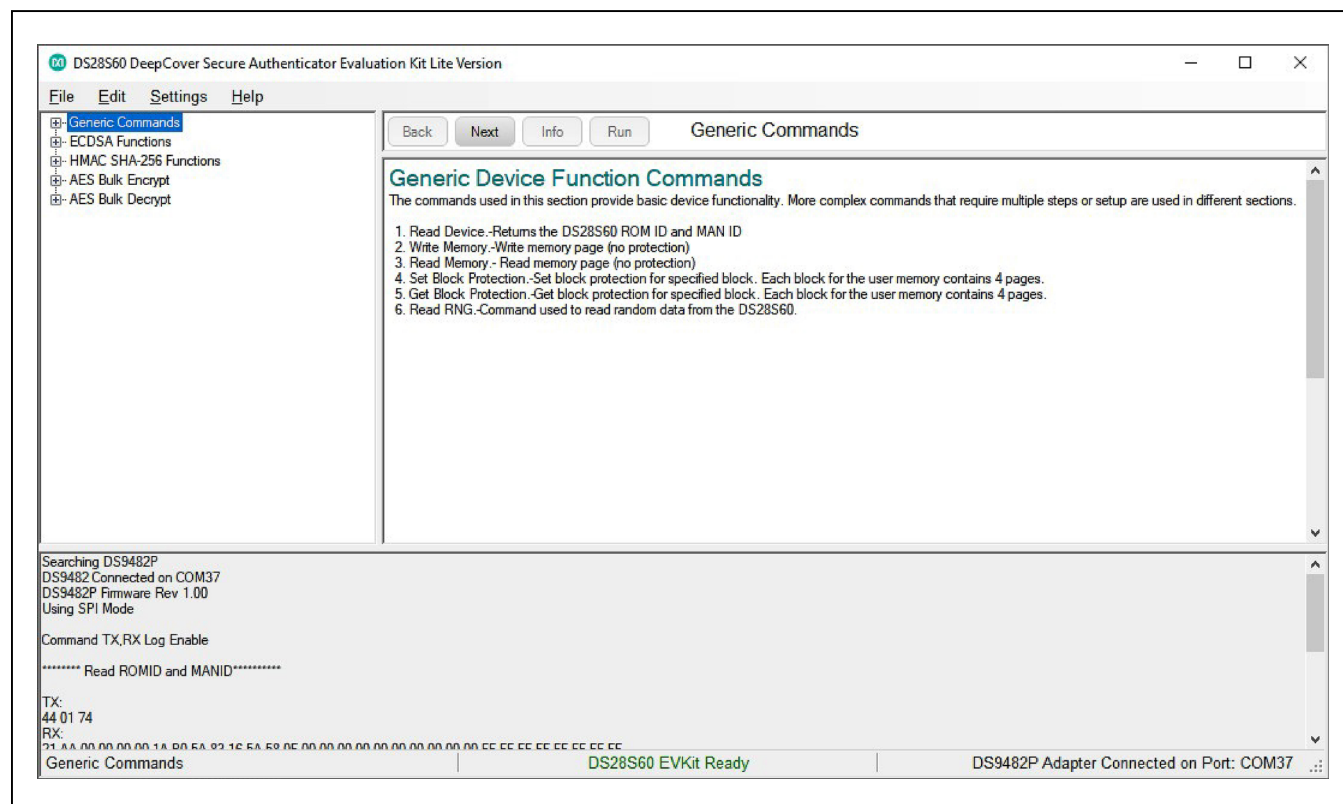

Figure 10. DS28S60 EV Kit Program (Default View Upon Opening)
- 7) The DS28S60 EV kit program opens and automatically connects to the COM port. This can be verified in the lower right corner of the window, as shown in Figure 10.